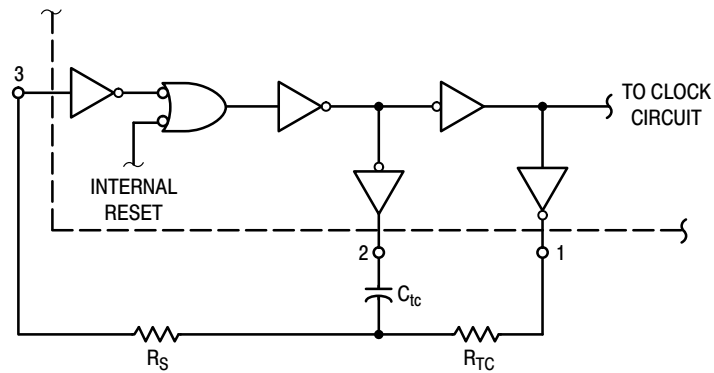

Figure 3. Oscillator Circuit Using RC Configuration
5. When using the on chip oscillator the total supply current (in μAdc) becomes: I_T = I_D + 2 C_{TC} V_{DD} f × 10^{–3} where I_D is in μA, C_{TC} is in pF, V_{DD} in Volts DC, and f in kHz. (see Fig. 3) Dissipation during power-on with automatic reset enabled is typically 50 μA @ V_{DD} = 10 Vdc.
The RC oscillator as shown in Figure 3 will oscillate with a frequency determined by the external RC network i.e.,